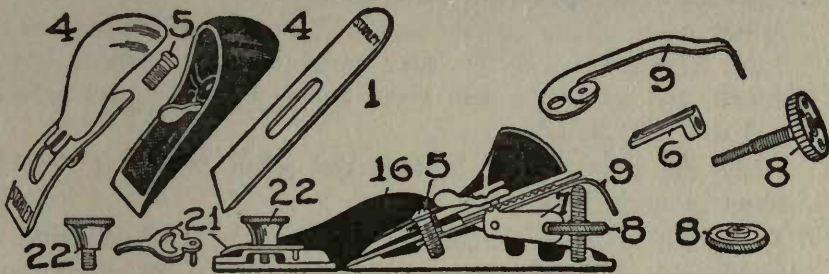

Fig. 26.
Note: Where one must hold his work with one hand while planing the end, a block plane (Fig. 26) is needed, otherwise the jack or smooth plane may be used.
1. The block plane (Fig. 26) has no cap iron. Why?